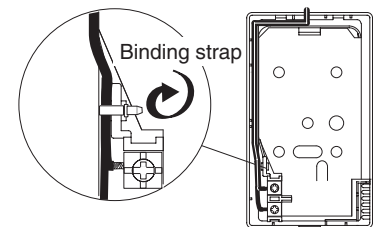

Fig. 3-3-5
3. Referring to Fig. 3-3-5, connect the controller wiring to the main unit, and then attach the binding strap (supplied).